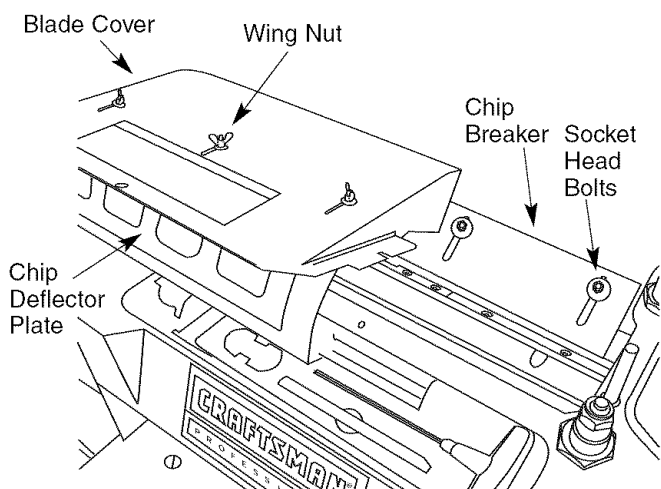

Figure 15 - Positioning the Chip Breaker
Refer to Figure 15 and 28, pages 8 and 18.
Refer to Figures 15, 16, 17 and 28, pages 8, 9 and 18.
- Remove the bit setting gauge and replace the blade cover and chip deflector. Check that chip deflector plate does not interfere with bits (see Figure 15). If necessary, adjust plate using wing nuts.